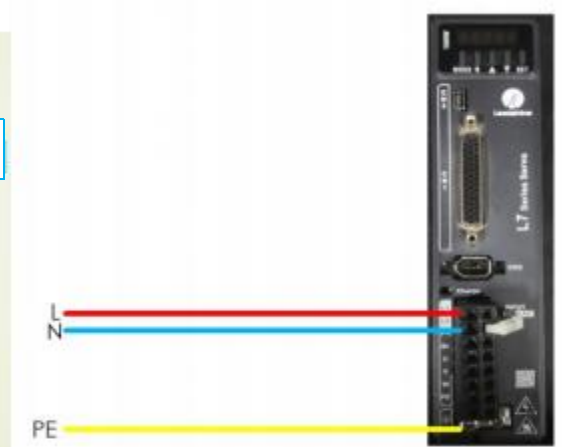

Figure 1.8
- ② Power cable wiring of servo drive (single phase 220V), as shown in Figure 1.8.